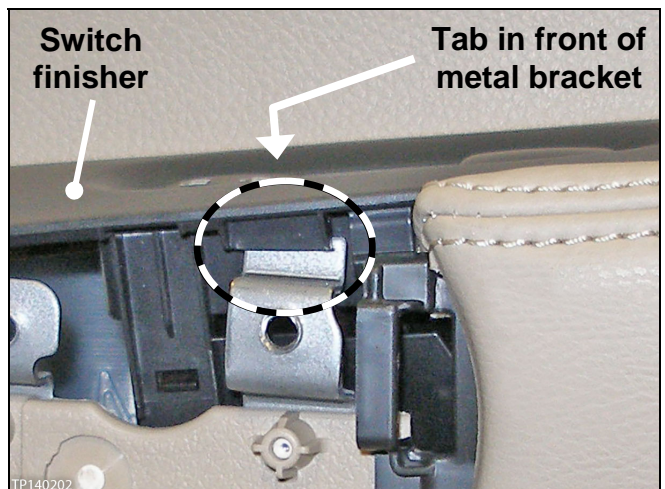

Figure 5
- To ensure switch finisher retention: It is important the switch finisher's tab is located in the correct position (Figure 5) before installing the door pull handle and bracket.